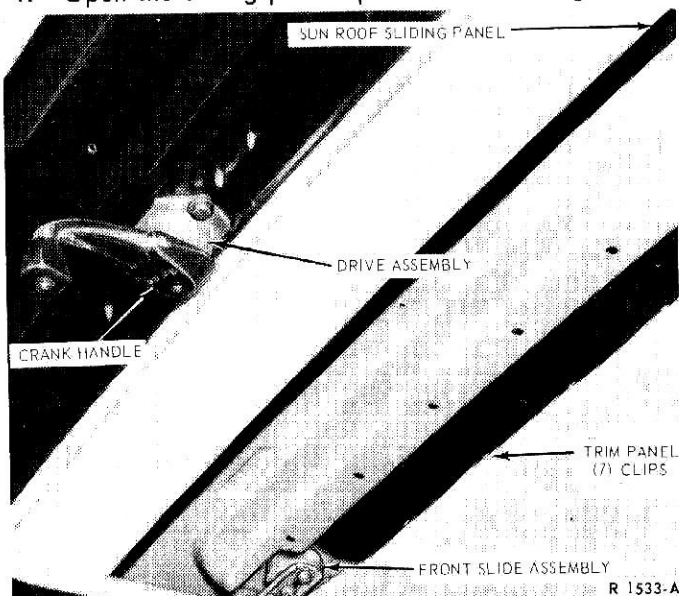

FIG. 3 Trim Panel-To-Sliding Panel Attachment
1. Open the sliding panel open five inches (Fig. 3).
2. Disengage the trim (inner) panel from the sliding (outer) panel by pulling the seven trim clips loose (Fig. 3).